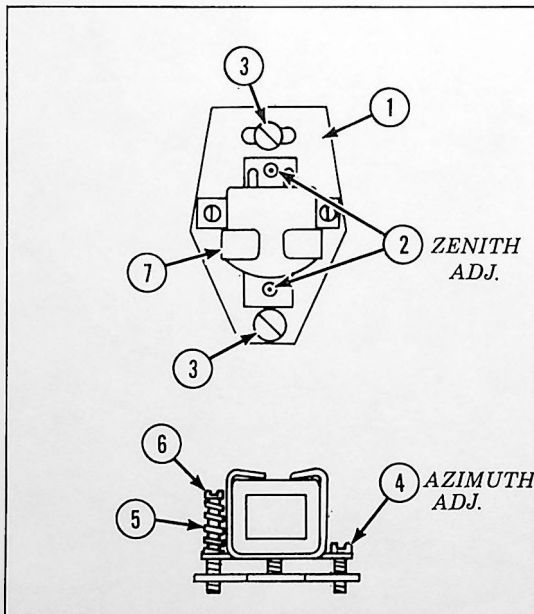
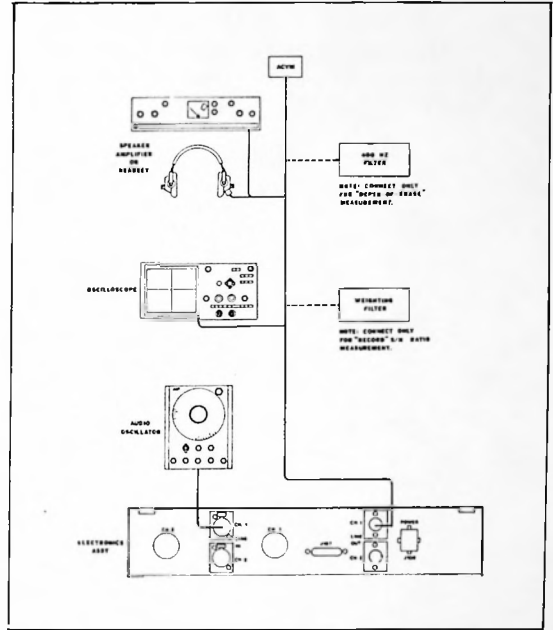

Figure 7-6
Figure 7-9
TAPE HEAD ASSEMBLY ADJUSTMENT PROCEDURE (Figure 7-6)
- d. Tangency of each head gap-to-tape is adjusted by loosening both screws (3) and very carefully rotate the head mounting (1). Gently tighten the front screw first and then gently tighten the rear screw so as not to move the head assembly. Adjust for maximum signal. (See Figure 7-6.)
- e. Using the azimuth adjustment screw (4), adjust the playback head for maximum signal on the appropriate vu meter, (for 255 Series only connect a ACVM to channel 1 LINE OUT), while reproducing a high frequency signal. Place the transport in Stop mode and remove the tape. Remove ACVM.
- f. After the playback head has been adjusted, load and thread a reel of blank tape. Connect an audio oscillator to CHANNEL 1 LINE IN as shown in Figure 7-9. Place the transport in Record mode.
- i. The individual head assembly can be removed from its respective mounting position by removing both 4-40 screws (3), and disconnecting the head cable. The only realignment required upon re-installation when neither the azimuth nor zenith adjustment have been changed is the head rotation (step d).
7.15 Set up the test equipment and connect to CHANNEL 1 LINE IN as shown in Figure 7-9.